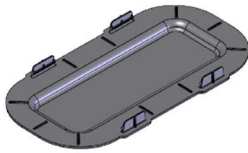

Figure 11
9. \*Diesel Only: Install the provided Airbox Plug over existing hood intake. (See Fig. 11)